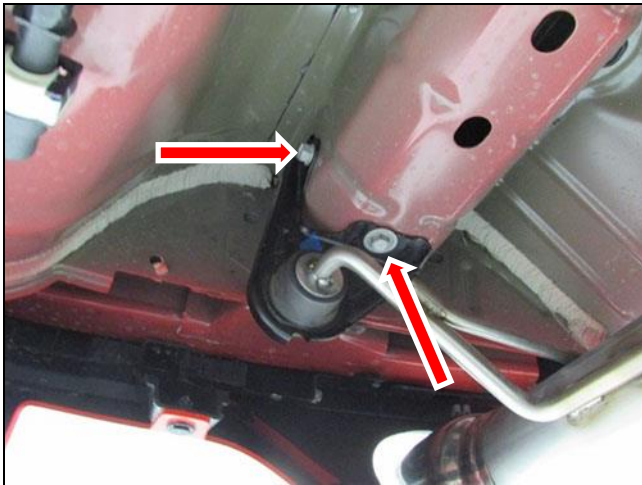

Figure 2
5. Remove (x4) 13mm head bolts securing the left and right side rear OE muffler isolation mount bracket to the chassis (**Fig. 2 & 3**).